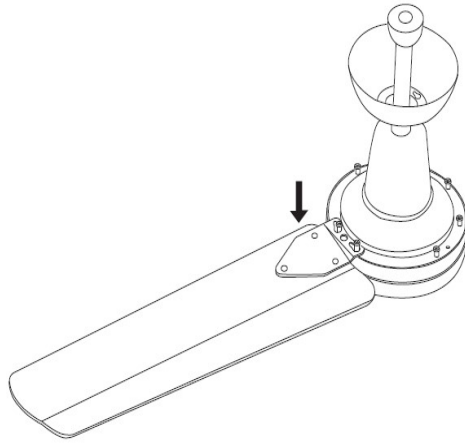

Fig. 2
2. Fit the blades to the fan motor as shown below in fig. 2 with bracket facing upward. Turn the blade slightly anti clockwise to secure the blade.